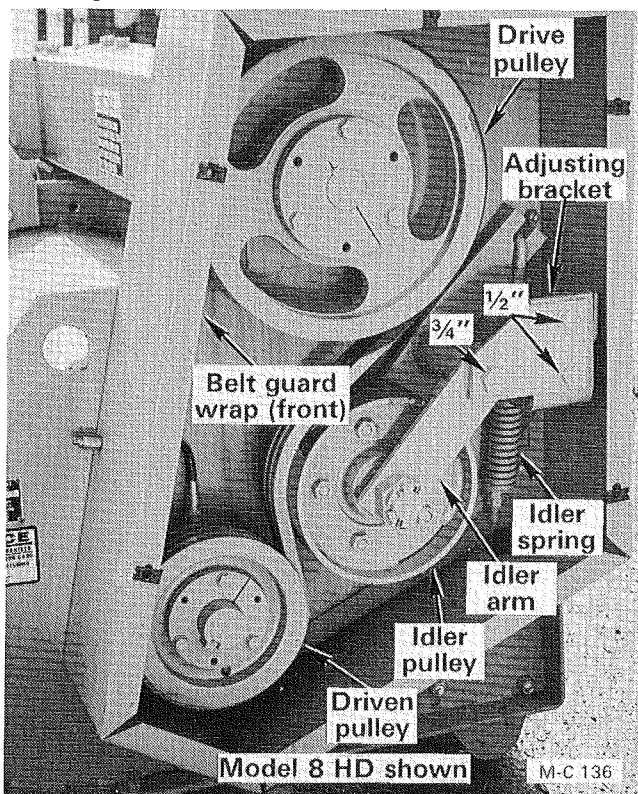

Figure 24
3. If the idler pulley is out of alignment, loosen the idler spring rod locknut and back off the idler spring adjustment nut to relieve all spring tension, see Figure 24.